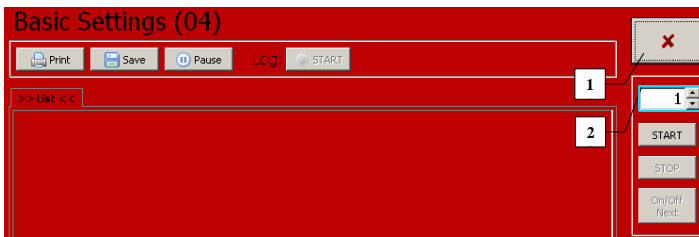
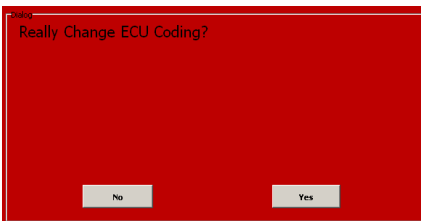

Figure 5.22
Figure 5.25
This function enables returning the control unit to the original setting (Figure 5.22), which means that the adaptation data and setting is deleted. It is often used during or after throttle calibration, hydraulic ABS bleeding or xenon calibration.
First, we have to select the desired group using the button (1) (Figure 5.22). After pressing the Start button (2) you will be asked to confirm the changes (Figure 5.25) and if you do so a result of the change is displayed (5.26).